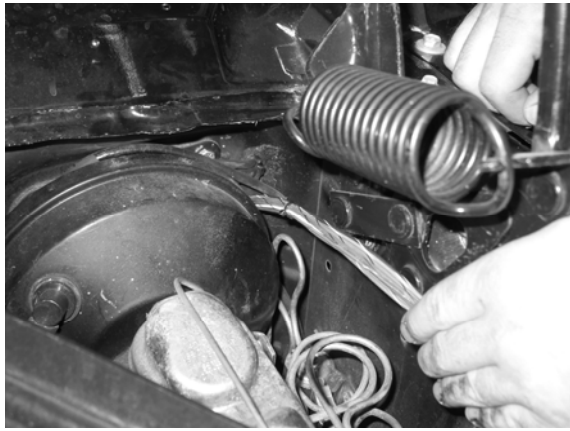

Figure 6-10
6.1.6 The final main section of the harness to be pulled is the **Headlight Section**. This section of the harness is to be fed through the hole in the firewall which is directly to the right of the master cylinder. After this section has been pulled through, carefully install the large grommet from the parts kit into the hole. See **Figures 6-10 and 6-11**.